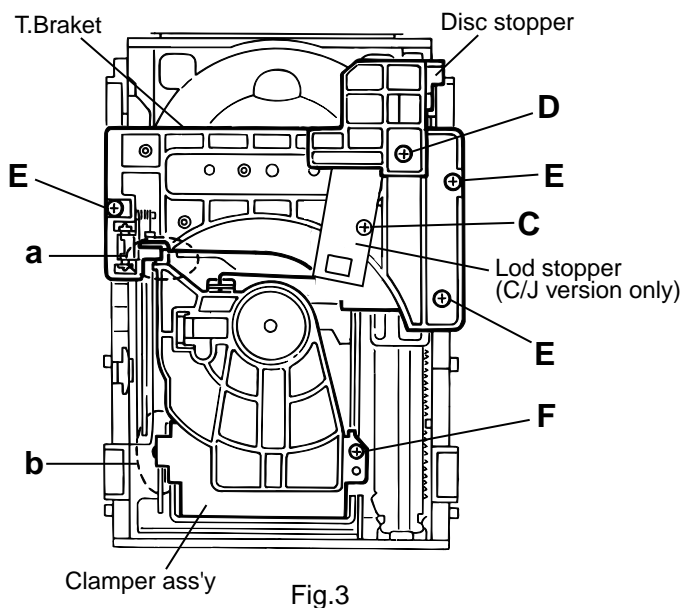

Fig.3
6. Remove the screw **D** retaining the disc stopper (See Fig.3).
7. Remove the three screws **E** retaining the T.bracket (See Fig.3).
8. Remove the screw **F** retaining the clamber assembly (See Fig.3).